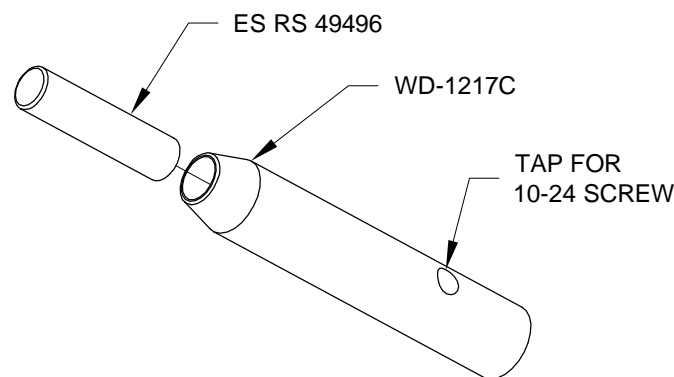
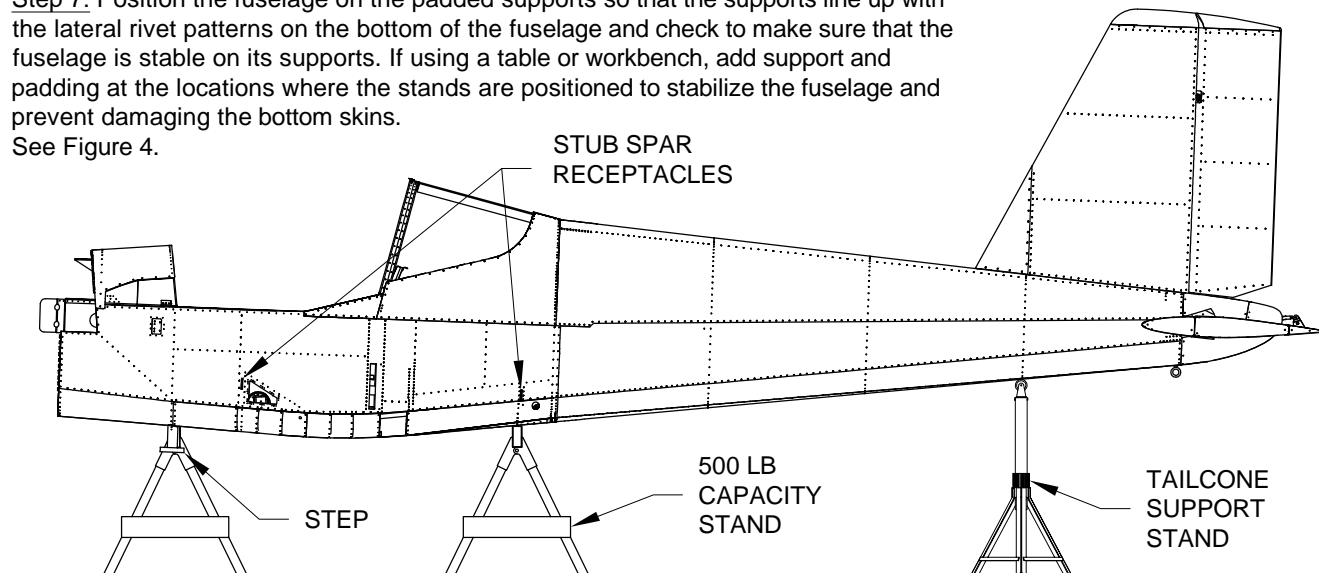

FIGURE 1: FUSELAGE PIN STOPPER ASSEMBLY
FIGURE 4: SUPPORTING THE FUSELAGE
Step 1: Tap the hole in each of the WD-1217C Fuselage Pin Stoppers as shown in Figure 1.
Step 2: Insert the ES RS 49496 Magnet all the way to the bottom of the hole in the WD-1217C Fuselage Pin Stopper then fill the remainder of the hole with epoxy and allow it to set. See Figure 1. Repeat for the second magnet and fuselage pin stopper.
Step 6: Obtain two padded stands approximately 28 inches wide and 25 inches tall and capable of supporting 500 pounds each. The padded surface must be at least 1 1/2 inches thick. A sturdy table or workbench may be used for this procedure, but stands may be easier to work around and can be used for future aircraft maintenance. See Figure 4.
Obtain two additional stands (preferably adjustable) to support the wing and tail section during installation and removal. The additional supports are required to prevent the fuselage from rolling or tipping during wing installation and removal and should be taller than the fuselage supports. See Figure 4 and Page 30-03 Figure 1.
Step 7: Position the fuselage on the padded supports so that the supports line up with the lateral rivet patterns on the bottom of the fuselage and check to make sure that the fuselage is stable on its supports. If using a table or workbench, add support and padding at the locations where the stands are positioned to stabilize the fuselage and prevent damaging the bottom skins. See Figure 4.